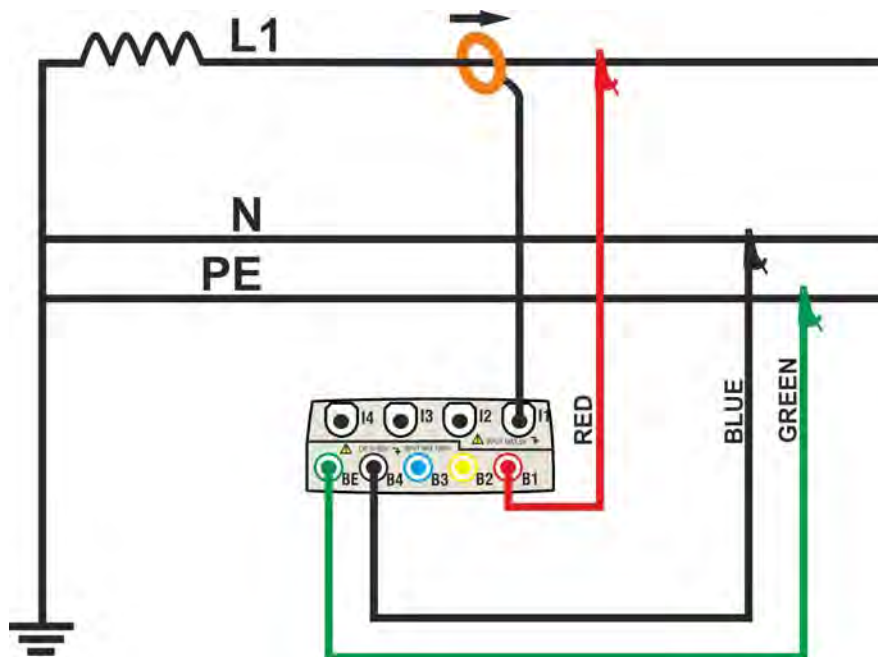

Fig. 131: Meter connection in a Single phase system – ENG\_UK type
2. Connect voltage test leads on Phase, Neutral and Ground cables considering the colours as shown in Fig. 131).
3. Connect the transducer current clamp on L1 Phase cable as shown in Fig. 131) respecting the clamp's arrow direction indicating the current standard sequence from generator to load. **On Real Time Values' section screens always verify the positive value of Active Power and the power factor relative to load which should be normally inductive** before starting a recording. Reverse the clamp by 180 degrees on cables in case of negative readings.